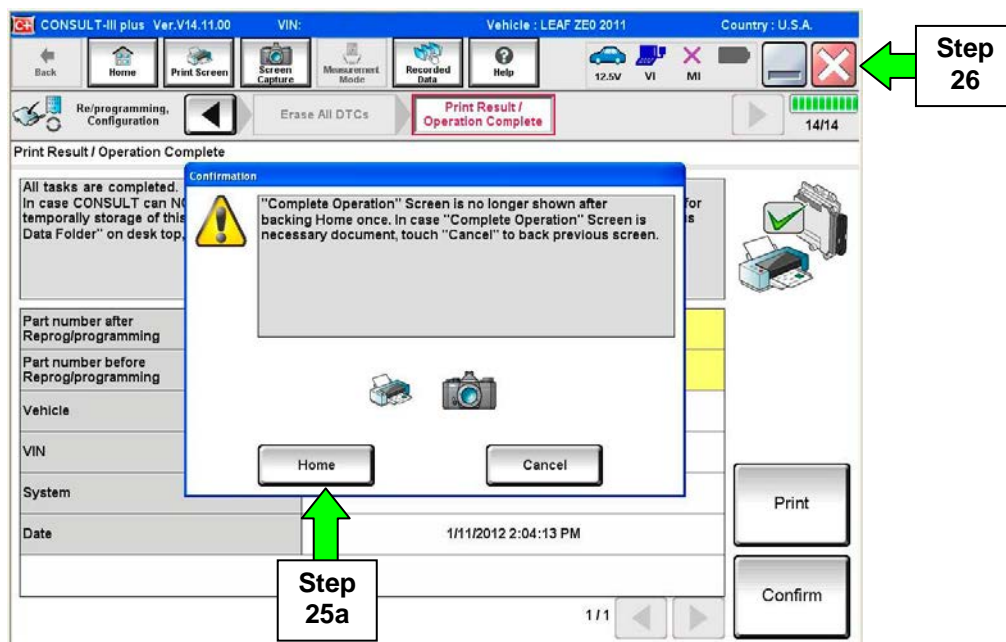

Figure 24
26. Close C-III plus (see previous page, Figure 24).